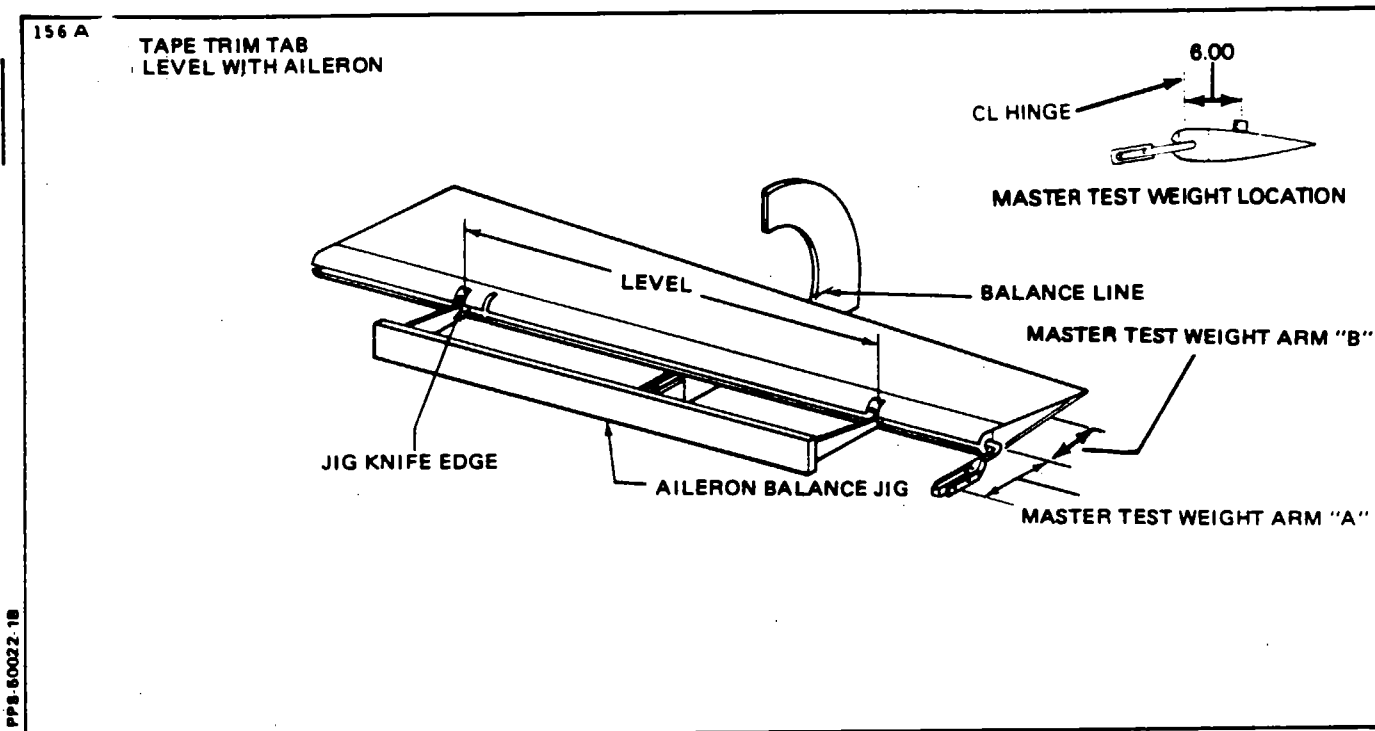

Figure 4-16. Aileron Balancing
4-92. BALANCING EQUIPMENT. Balancing must be done using the test weights (if required) called for in the text and Table IV-I for each surface. Any control surface being balanced must be removed from the aircraft and placed in a test fixture (jig) as shown in Figures 4-16, 4-17, and 4-19. The balancing must be accomplished in a draft free area and in a manner which allows unrestricted movement of the control surface.
4-94. AILERON BALANCING PROCEDURE. (Refer to Figure 4-16.)
- b. Place the aileron on a balancing jig as illustrated in Figure 4-16. Establish a horizontal reference mark which aligns with the trailing edge of the aileron when it is held in a horizontal level position (chord line level).
1. The specified master test weight should be hung from the front balance weight attachment bolt. (Refer to Figure 4-16, Master Test Weight Arm "A.")
2. If the surface is leading edge heavy, place the master test weight (0.0 to 0.5 lbs.) 6 inches behind the hinge line. (Refer to Figure 4-16, Master Test Weight Arm "B.") If the surface balances or is trailing edge heavy, it is satisfactory.
4. If the surface is trailing edge heavy, add trim weights (P/N 54395-2) to produce a balanced condition. Do not use more than three (3) trim weight P/N 54395-2, and one (1) trim weight P/N 54395-3.